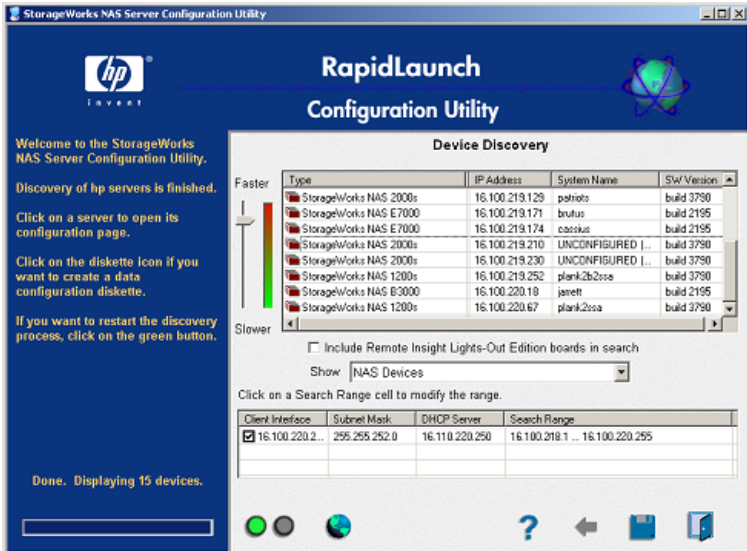

Figure 6: RapidLaunch device discovery screen
8. All the NAS devices found on the network are displayed as shown in Figure 6. It may take several minutes for the NAS device to be found on the network.